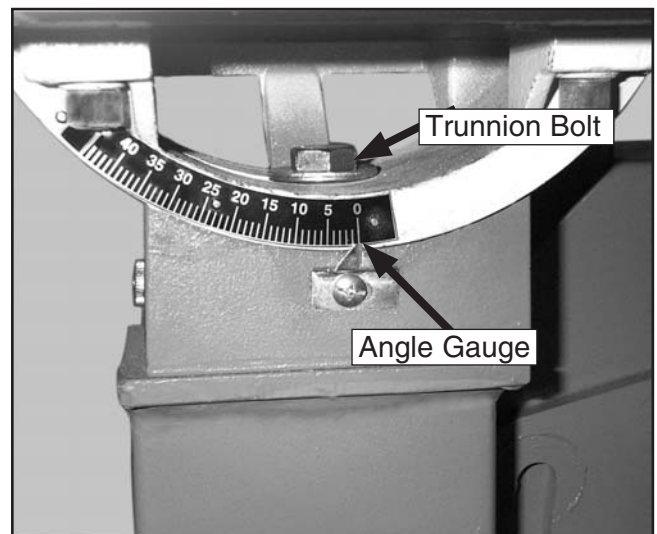

Figure 39. Trunnion bolt.
2. Loosen the trunnion bolt shown in **Figure 39** $\frac{1}{2}$ turn—just enough so the table moves.